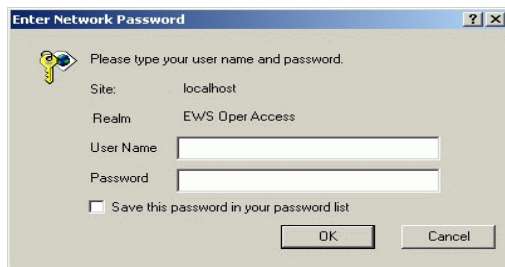

Figure 3-1 Username and Password Required Dialog Box
- c. At the *Netsite* field (Netscape Navigator) or *Address* field (Internet Explorer), type **http://xxx.xxx.xxx.xxx**, where **xxx.xxx.xxx.xxx** is the IP address of the switch (obtained in step 1). The *Username and Password Required* dialog box appears (Figure 3-1).
- b. At the *Netsite* field (Netscape Navigator) or *Address* field (Internet Explorer), type **http://xxx.xxx.xxx.xxx**, where **xxx.xxx.xxx.xxx** is the IP address of the switch (obtained in step 1). The *Username and Password Required* dialog box appears (Figure 3-1 on page 3-7).